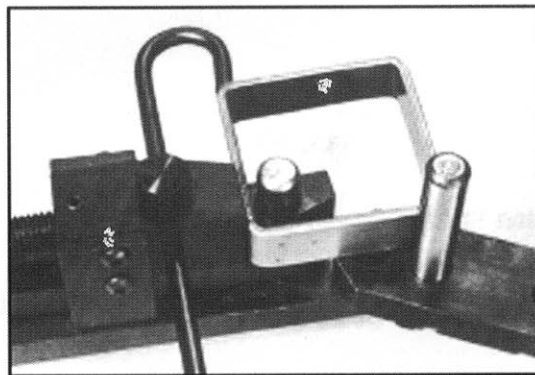

Figure 11
3. Use the gauge and the stop pin when you need to make squares. It will enhance your final results immensely as shown in Figure 11.